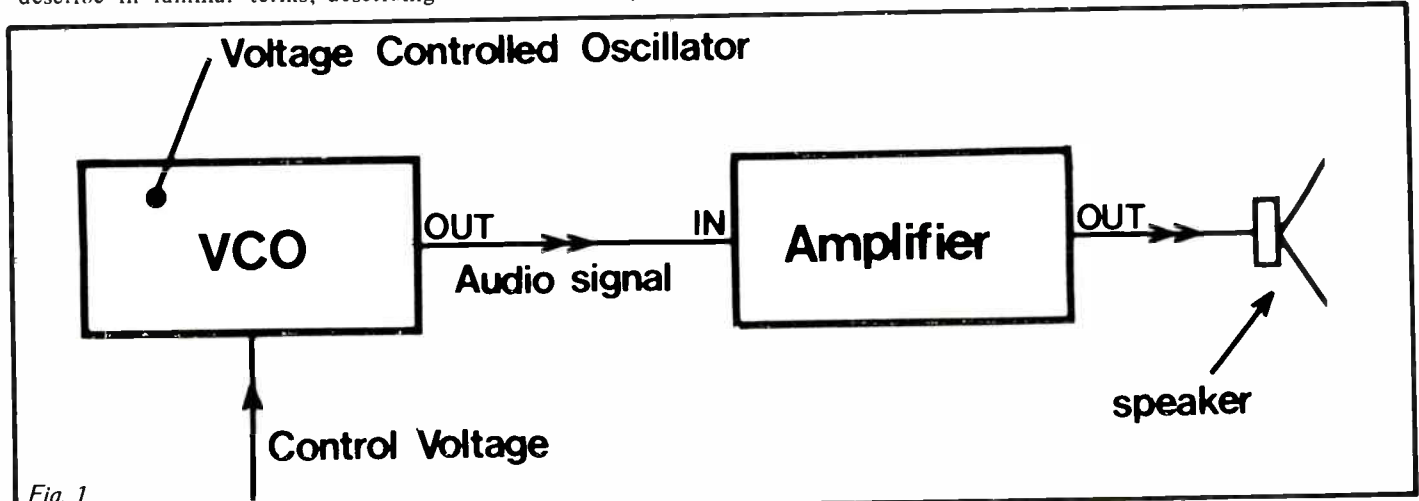

Fig. 1
If you fed the output of an audio-oscillator directly into an amplifier and loudspeaker (see Fig.1; ignore the “control voltage” for the moment), you would be able to describe three different characteristics of the continuous sound you heard, its *pitch*, *loudness* and *tone quality*. The frequency of the oscillator’s output determines its pitch, and the amplitude determines its loudness (see Part 1). Although the pitch and loudness would be relatively easy to describe in familiar terms, describing
The frequency of synthesizer audio-oscillators is governed by a voltage which is an *input* to the oscillator (see Fig.1); this voltage is called a *control voltage* (CV). In the same way that the steam pressure in a whistling kettle determines the pitch of the whistle, so the control voltage determines the pitch or frequency of a *voltage-controlled oscillator* (VCO). It